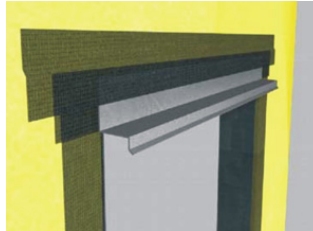

Figure 7
- e. Cut AquaFlash Mesh to proper length [flashing plus 102 mm (4 in) extending 51 mm (2 in) beyond each end of flashing] - Figure 7.